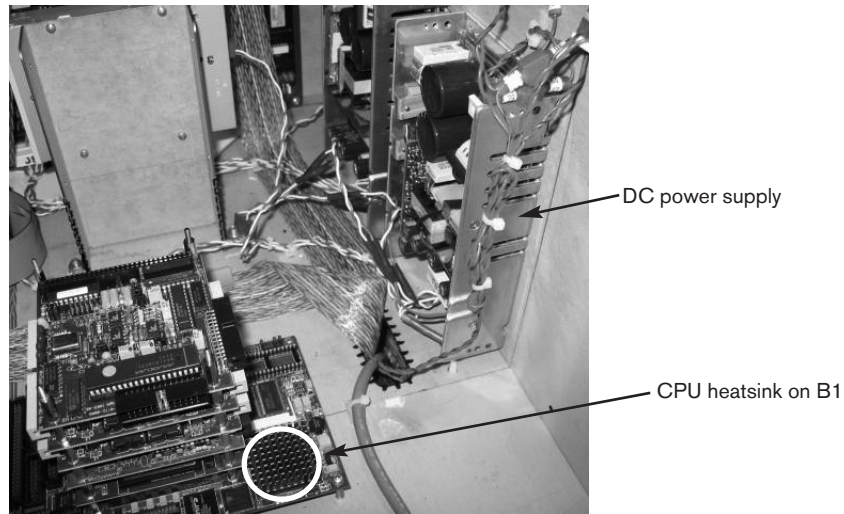

Figure 2
1. Place the new PC-104 stack (141023) into the Control Box, and orient it so that the CPU heatsink on B1 is on the same side as the DC Power Supplies (See figure 2).